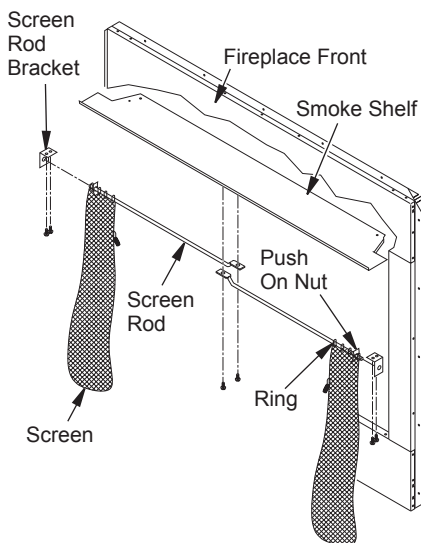

Figure 26 - Installing Fireplace Screen
4. Mount flat end of screen rod with #10 x 5/8" to center of smoke shelf (see Figure 26).